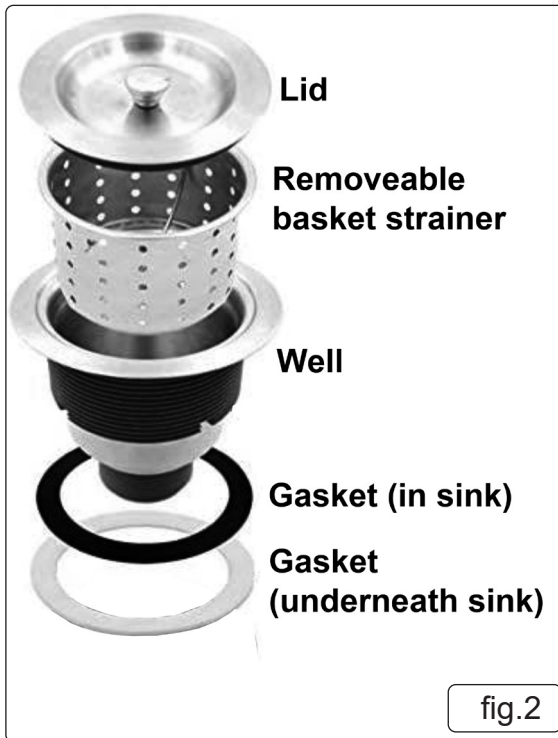

fig.2
- 4.4.1. Assemble as per fig.2.